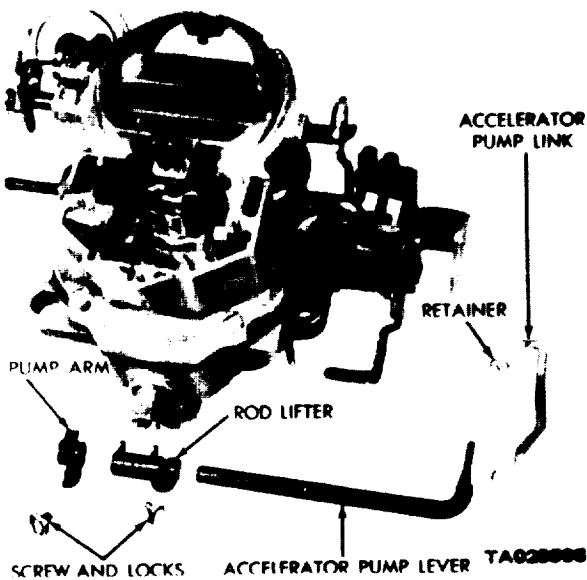

Figure 12-3. Removing or Installing the Accelerator Pump Lever.
(5) Remove the screws and locks from the accelerator pump arm and the vacuum piston rod lifter. Then slide the pump lever out of the air horn (figure 12-3).